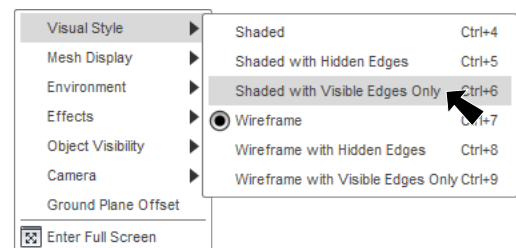

Fig. 17
Step 4. Switch Visible Style to **Shaded with visible Edges Only (Ctrl-6)**. To switch, click the Display Settings  pull-down in the Navigation Bar at the bottom of the canvas and select **Visual Style > Shaded with visible Edges Only**, **Fig. 17**.